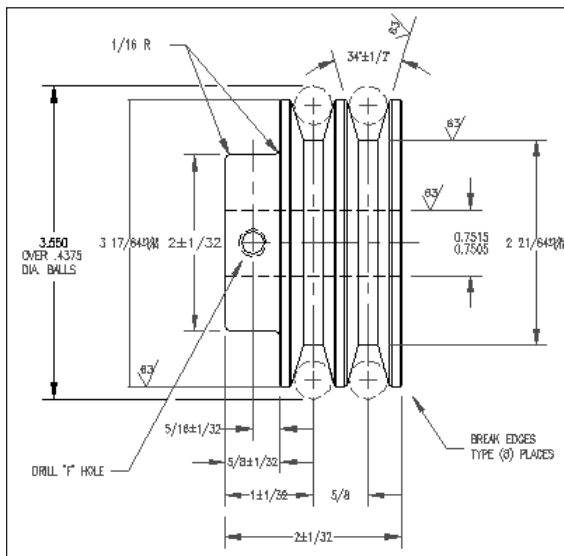

Figure 14-31: The pulleys with two leaders
6. Save your drawing. It should look like Figure 14-31.